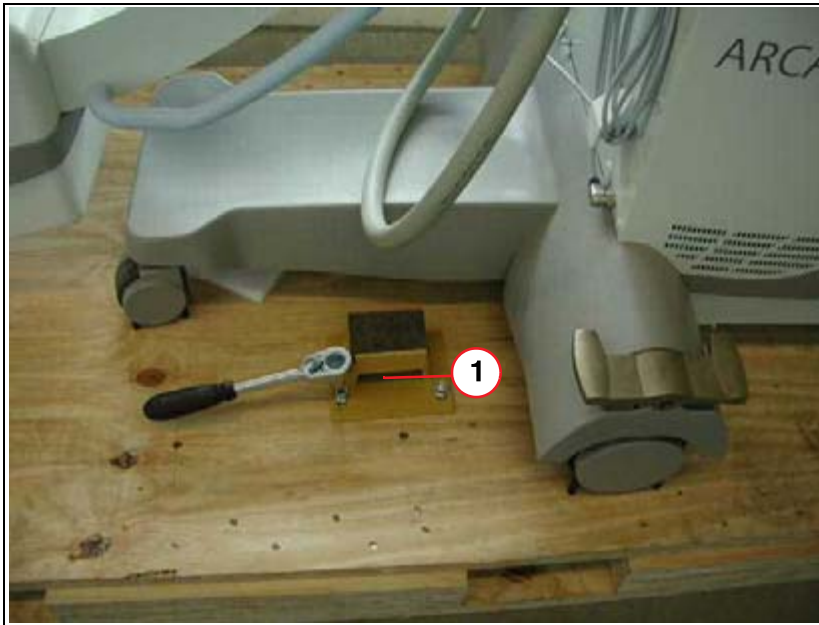

Fig. 10: Transport clamp\_
- Unscrew and remove the transport clamp (1/Fig. 10 / p. 10).